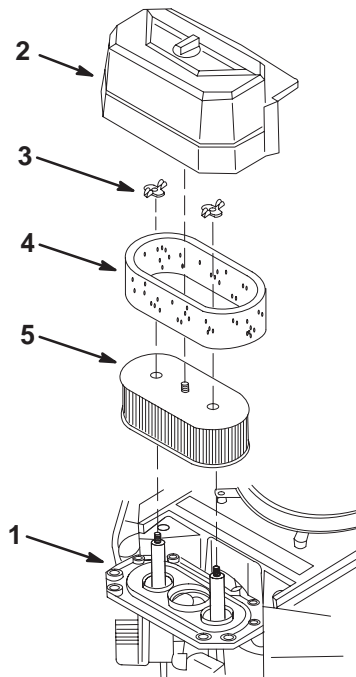

Figure 26
3. Clean around the air cleaner to prevent dirt from getting into the engine and causing damage (Fig. 26).
4. Remove the air cleaner cover (Fig. 26).
5. Unscrew the 2 wing nuts and remove the air cleaner assembly (Fig. 26).
6. **Carefully** pull the foam element off the paper element (Fig. 26).
1. Lightly tap the element on a flat surface to remove dust and dirt (Fig. 26).
1. Carefully slide the foam element onto the paper air cleaner element (Fig. 26).
2. Place the air cleaner assembly onto the air cleaner base and secure it with the nut (Fig. 26).
3. Install the air cleaner cover and secure the retaining locks (Fig. 26).